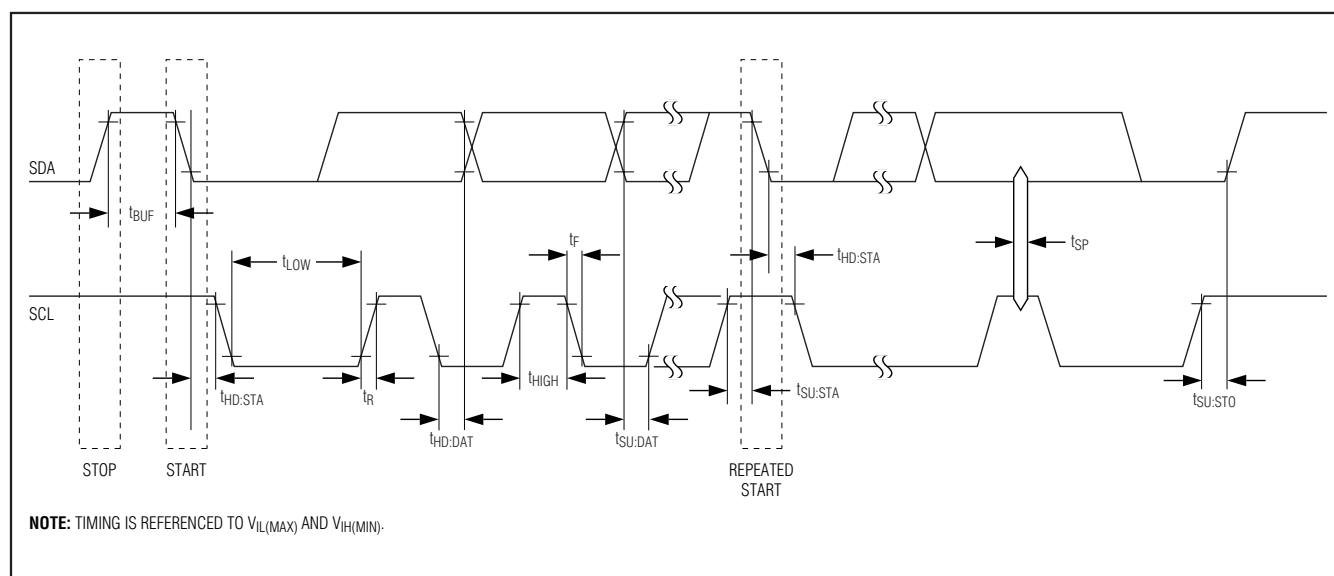

Figure 17. I2C Timing
**START condition:** A START condition is generated by the master to initiate a new data transfer with a slave. Transitioning SDA from high to low while SCL remains high generates a START condition. See Figure 17 for applicable timing.
**STOP condition:** A STOP condition is generated by the master to end a data transfer with a slave. Transitioning SDA from low to high while SCL remains high generates a STOP condition. See Figure 17 for applicable timing.
operations to identify a specific memory address to begin a data transfer. A repeated START condition is issued identically to a normal START condition. See Figure 17 for applicable timing.
**Bit write:** Transitions of SDA must occur during the low state of SCL. The data on SDA must remain valid and unchanged during the entire high pulse of SCL plus the setup and hold time requirements (Figure 17). Data is shifted into the device during the rising edge of the SCL.
**Bit read:** At the end a write operation, the master must release the SDA bus line for the proper amount of setup time (Figure 17) before the next rising edge of SCL during a bit read. The device shifts out each bit of data on SDA at the falling edge of the previous SCL pulse and the data bit is valid at the rising edge of the current SCL pulse. Remember that the master generates all SCL clock pulses, including when it is reading bits from the slave.
**Acknowledgement (ACK and NACK):** An acknowledgement (ACK) or not acknowledge (NACK) is always the ninth bit transmitted during a byte transfer. The device receiving data (the master during a read or the slave during a write operation) performs an ACK by transmitting a zero during the ninth bit. A device performs a NACK by transmitting a one during the 9th bit. Timing (Figure 17) for the ACK and NACK is identical to all other bit writes. An ACK is the acknowledgment that the device is properly receiving data. A NACK is used to terminate a read